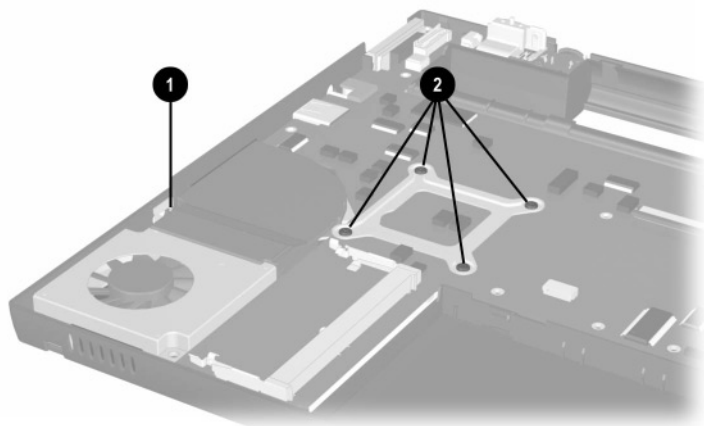

Figure 5-32. Identifying the Processor Mounting Bracket and Fan Screws
Do not remove the screw ❶ on the fan assembly or the four screws that secure the processor mounting bracket ❷ when removing the system board (Figure 5-32).